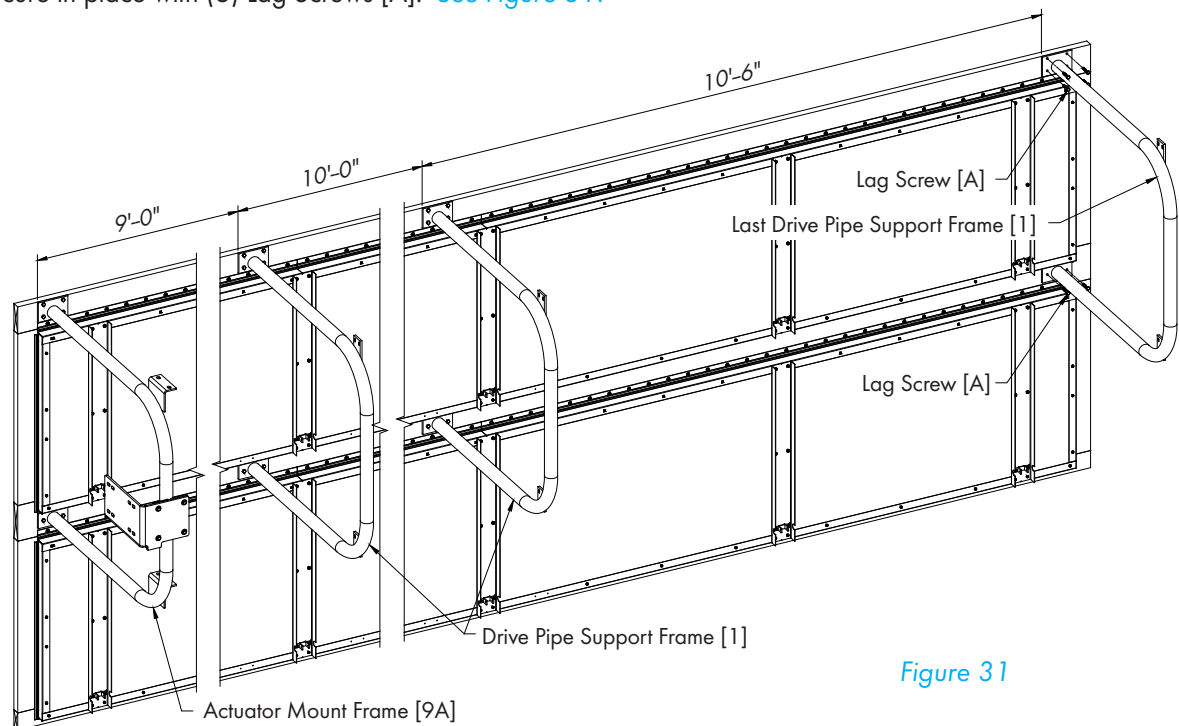

Figure 31
The last Drive Pipe Support Frame [1] in the system mounts 10'-6" from the previous one, with the Upper Mounting Plate flush with the top of the 2x6 Framing and the right edge flush with the end of the Doors. Secure in place with (6) Lag Screws [A]. See Figure 31.